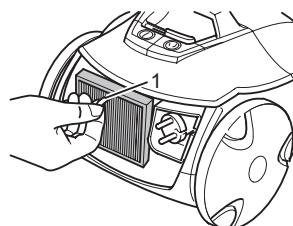

Fig.24
3. Remove the blow-out filter by the strap (Fig. 24/1).